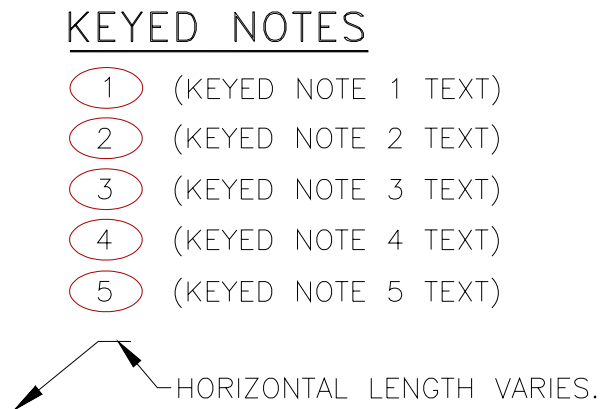

Figure 214-8
- G. The keyed note symbol is an oval with a number designation. The standards established for text apply to the numeric character in the keyed note bubble. See Figure 214-8 for an example of the Keyed Note style. General Symbol G-46 and G-47 (Appendix B) establishes keyed note bubble size and "Keyed Notes" legend header.